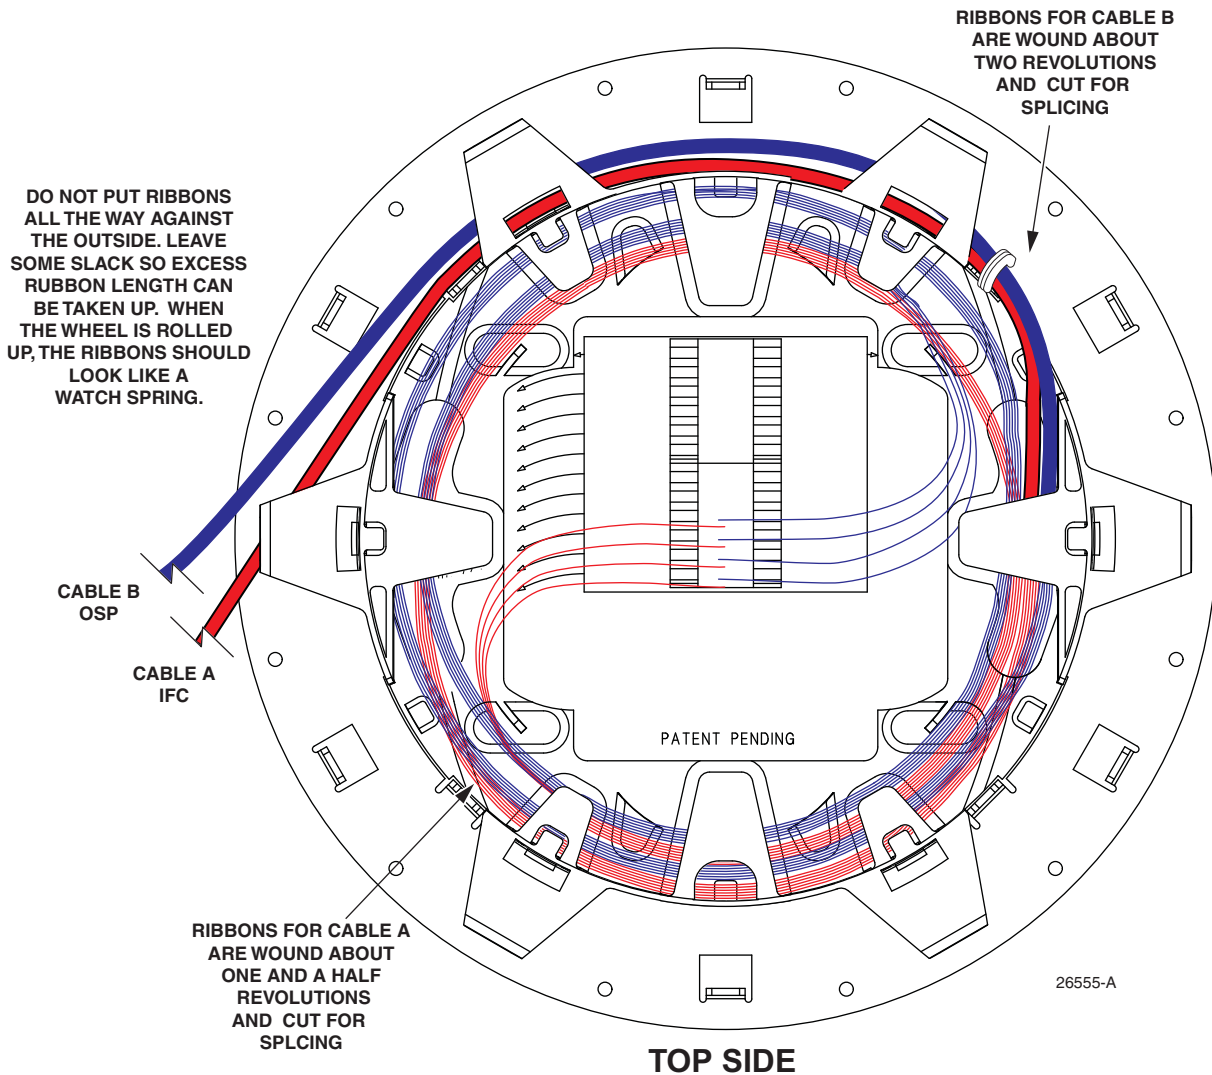

Figure 22. Clockwise Roll-up (4 Stacked Ribbons per Oval Tube)
1. Put cable “A” (typically the IFC cable) on the inside and cable “B” (typically the OSP cable) on the outside. Note the orientation of the cables. Align the end of the oval tubes in the area shown in Figure 22.